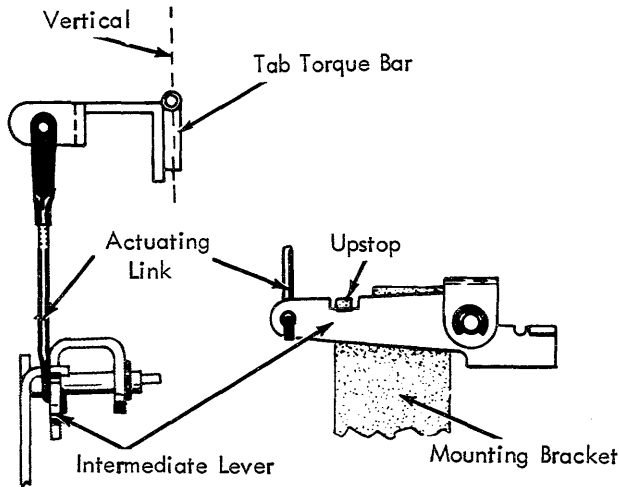

FIGURE 165. Actuating Link, 15" Machine
5. Actuating Link (Fig. 165) - With the Tab/Sp/BS cam latched and the intermediate lever resting against its upstop, adjust the actuating link clevis so that the tab torque bar hangs vertically.